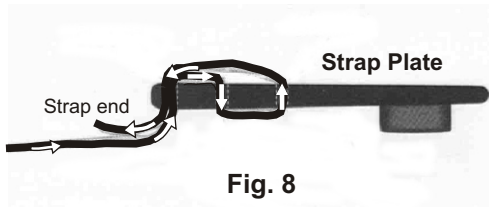

Fig. 8
- Attach straps to plates (see Fig. 8).
Attach cover end of strap to plate (see Fig. 8) then pierce hole through cover, 1" (2.5 cm) back from edge and directly below strap plate on tube. Push threaded plastic screw through hole in cover and tighten snugly into strap plate.
Fold cover (bubbles in) then pierce hole through both sides of cover 1" (2.5 cm) back from the fold (directly below strap plate on tube). Attach cover end of strap to plate (see Fig. 8). Push threaded plastic screw through holes in cover and tighten snugly into strap plate.